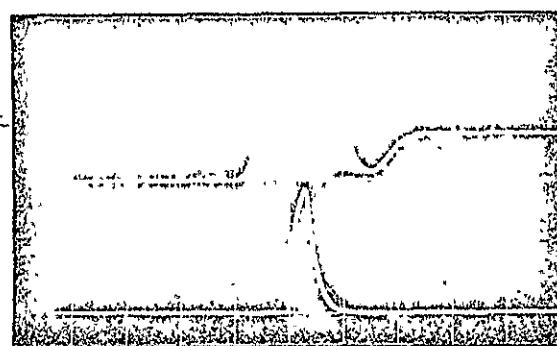

Figure 5-13. A2TJ1 V-Clamp (top)
5.3.1.3.6.2 Sample Delay Adjustment (refer to Figure 5-13)